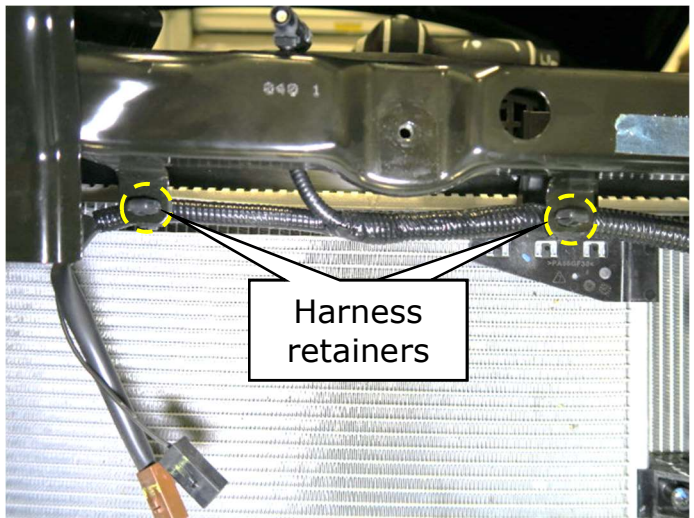

Figure 8
11. Disengage the (2) harness retainers and remove the harness from the front bumper retainer bracket. (Figure 8)